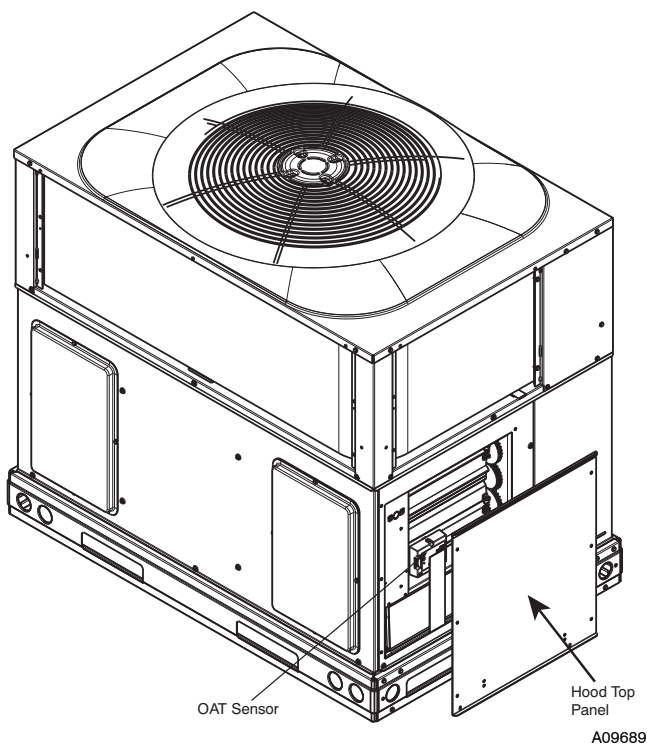

Fig. 22 - Economizer Hood Top Panel Removal
2. Remove economizer hood top panel from the return side of the unit. See Fig. 22. Keep screws and panel next to the unit.